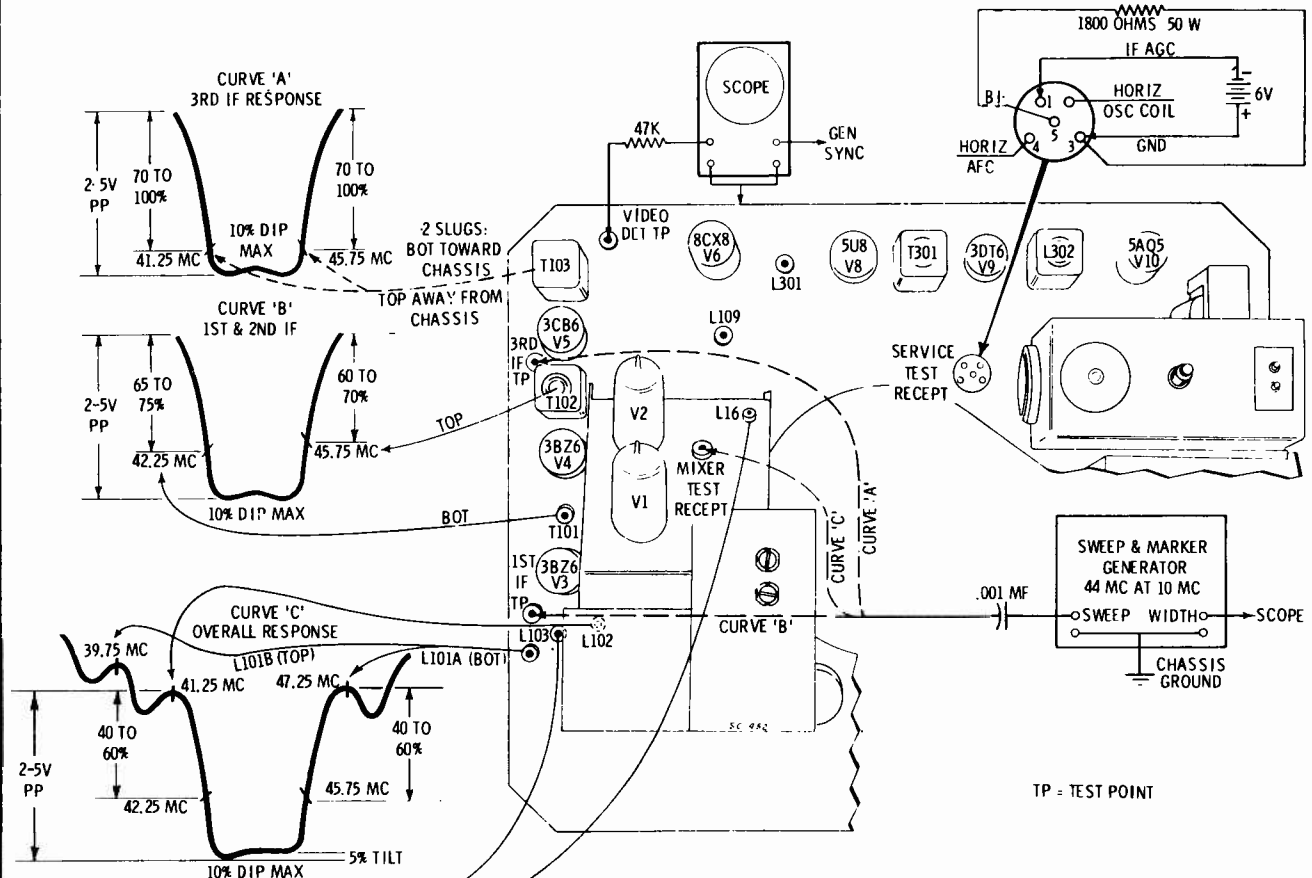

FIGURE 5. VIDEO IF & SOUND ALIGNMENT
3. Refer to Video IF & Mixer Alignment Detail for coil and test point locations (Figure 5).